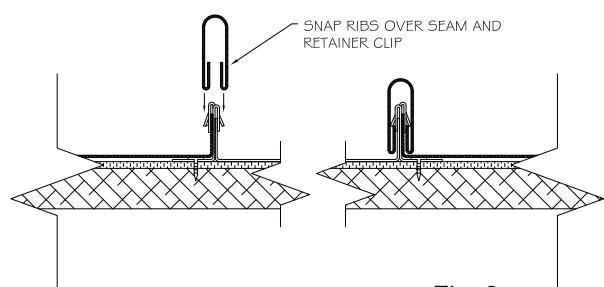

Fig. 3
5. Snap the standing seam ribs over the panel seams and retainer clips—See Fig 3